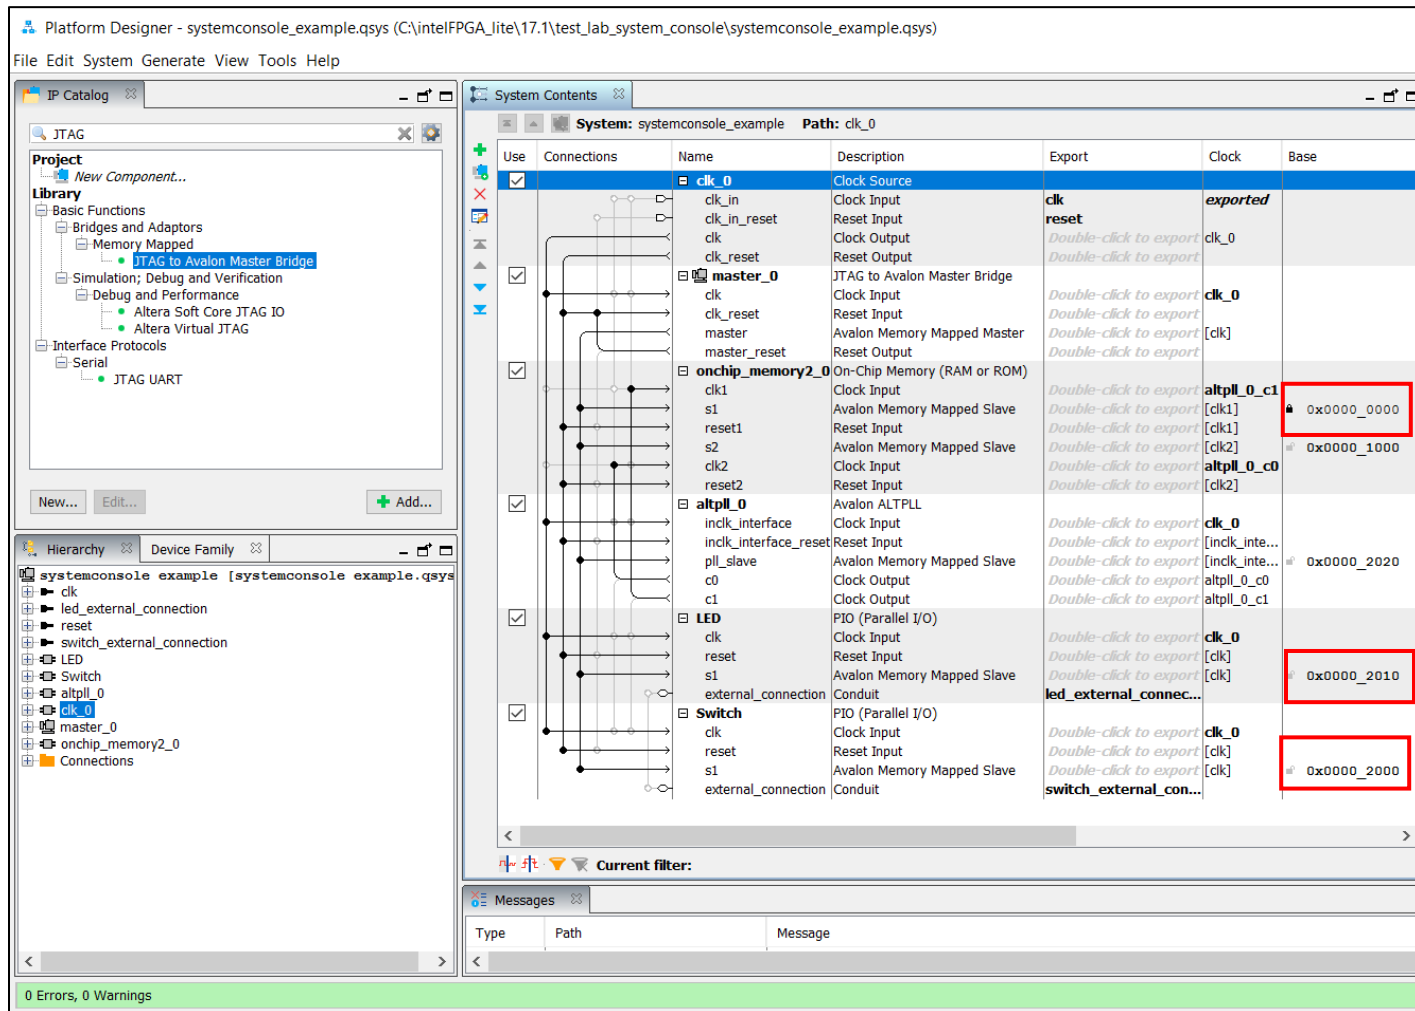

FIGURE 52 PLATFORM DESIGNER GUI
3. In Platform Designer, note the base address of the on chip-memory component. The base address is shown as a column in System Contents tab of Platform Designer tool. This will be the starting address in the next command in our case it is 0 (Refer to Figure 52)